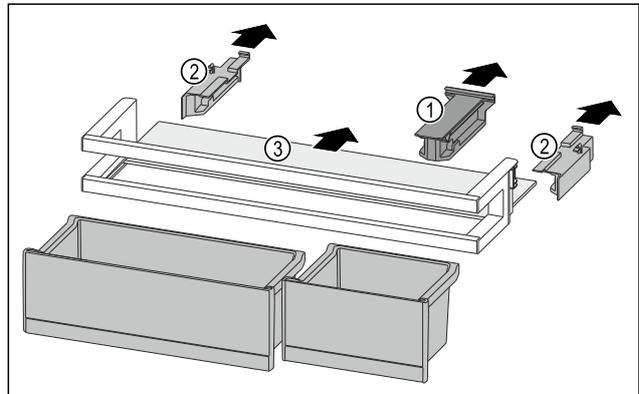

Fig. 85
- ▶ Pull off the holding part Fig. 85 (1).
- ▶ Pull off the side parts Fig. 85 (2).
- ▶ Remove the shelf Fig. 85 (3).